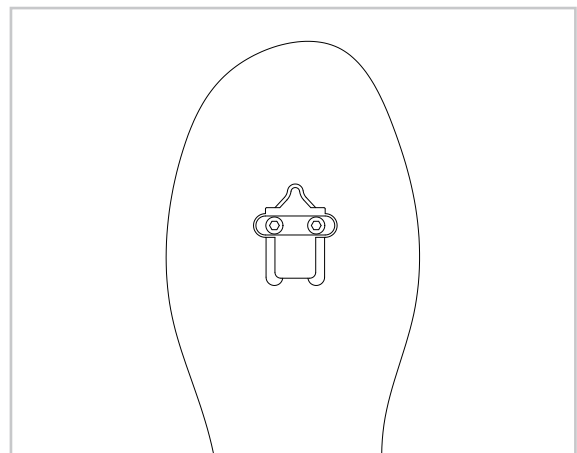

FIGURE 9
2. Mounting lock: The installation position of the lock piece varies from person to person, and the installation position is on the front. The outbreak is good; the installation position is back, and the endurance is sufficient. As shown in Figure 9.